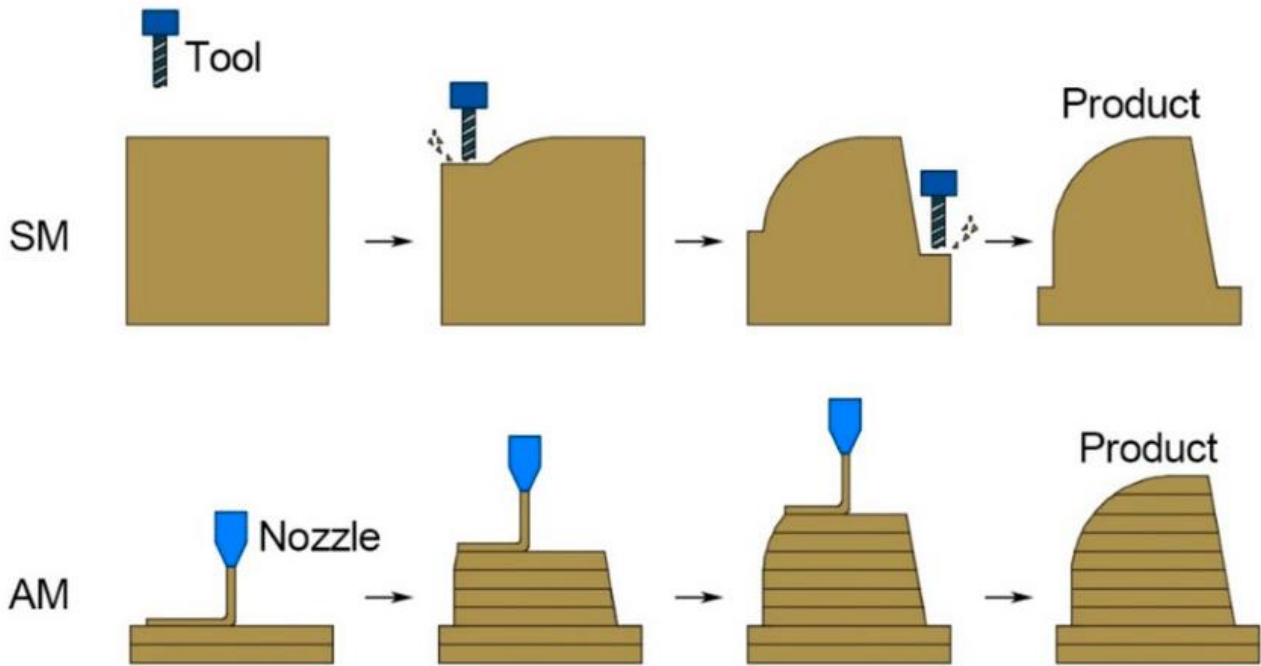

Fig. 1. Milling versus additive manufacturing [ref].
Additive manufacturing (AM), commonly referred to as **3D printing**, encompasses a set of computer-controlled technologies that build 3D objects layer by layer (Figure 1). This approach enables the fabrication of complex geometries that are often inaccessible or prohibitively expensive with conventional subtractive techniques (e.g. milling, turning, drilling) or forming processes (e.g. injection molding, extrusion).